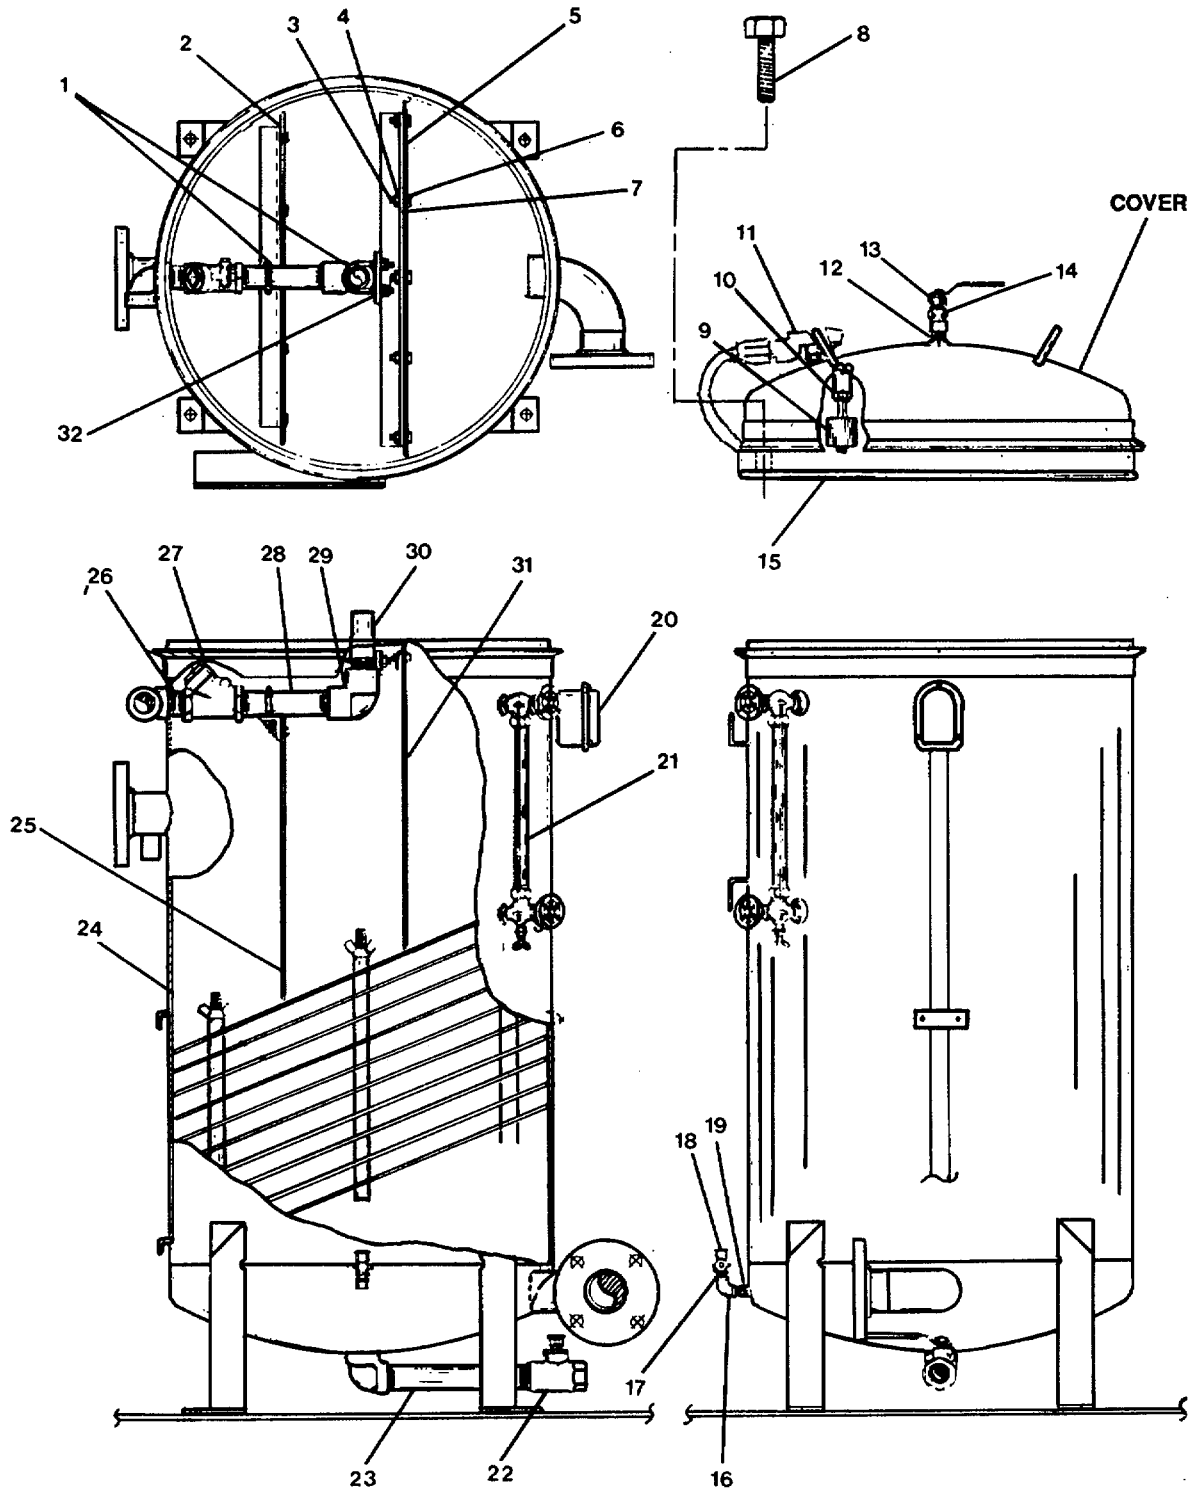

FIGURE 3-21. Vessel Subassembly (First Stage).
**3-25. Repair Vessel Subassembly (First Stage). (Figure 3-21)**